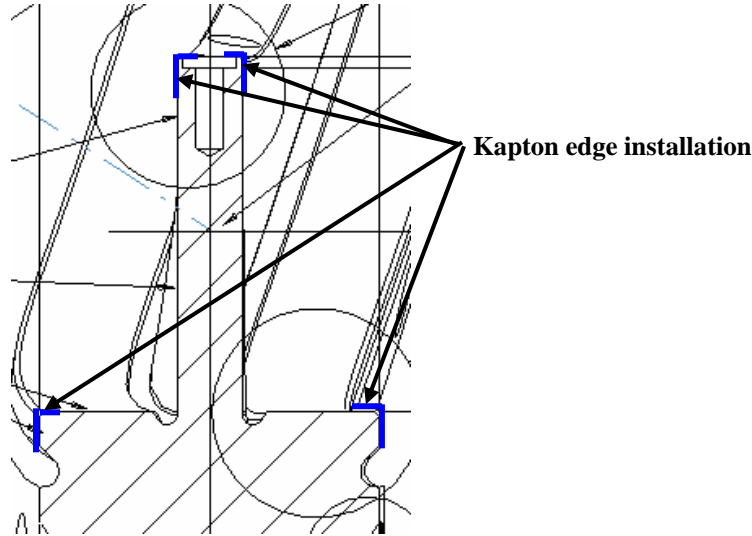

Figure 15-Kapton Edge Installation
Prior to mold releasing, install (1) layer of 0.00325 inch thick adhesive back Kapton tape onto the edges of the tee casting where the cladding bends around corners. [Figure 15-Kapton Edge Installation]